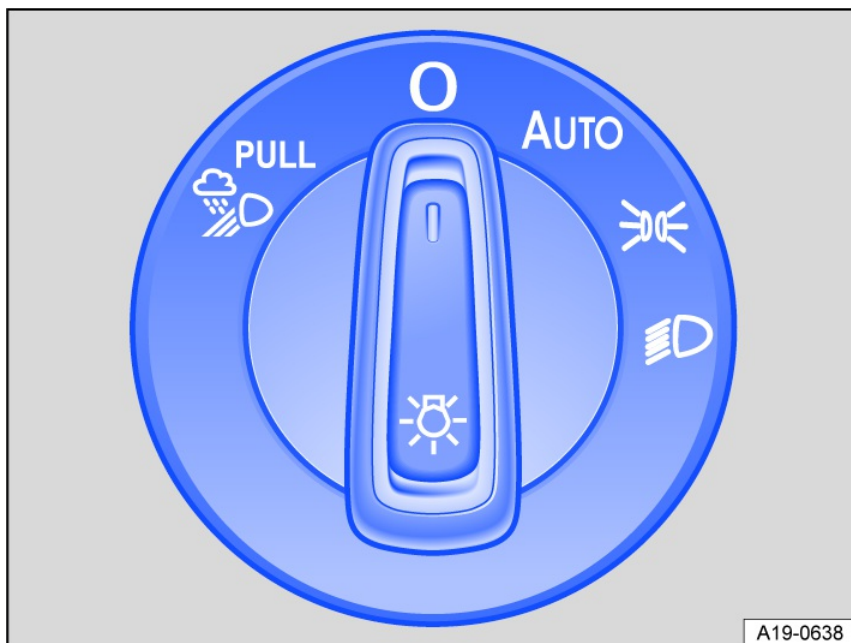

Fig. 91 Next to the steering wheel: light switch (one version).
2. Turn the light switch to the desired position *fig. 91*: